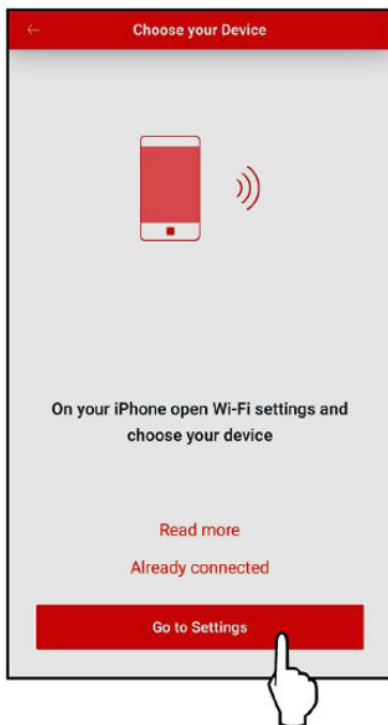

Figure 97. Go to Settings
4. Press the "Go to Settings" button on the "Choose your Device" screen. See **Figure 97**.